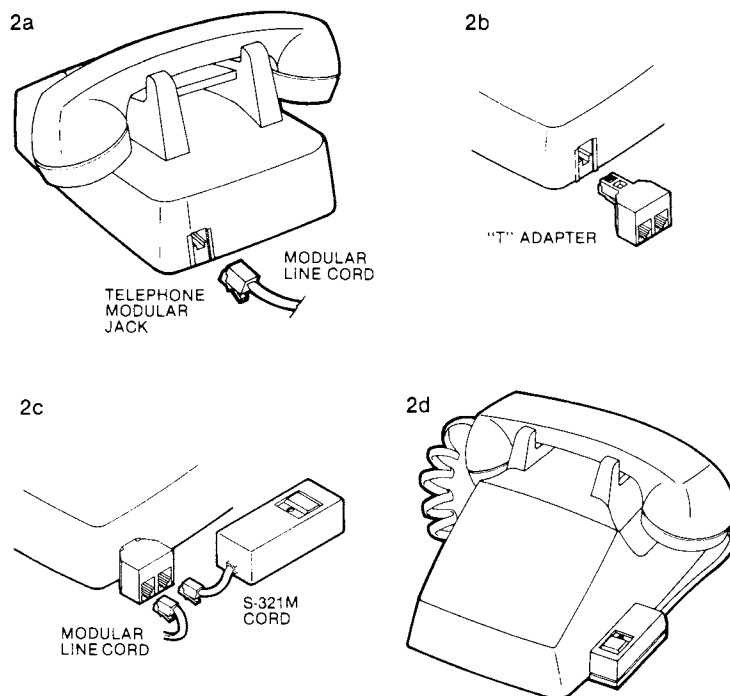

Fig. 2a-d — S-321M Connections.
3.01 Unplug the modular line cord from the modular jack on the telephone (see Figure 2a).